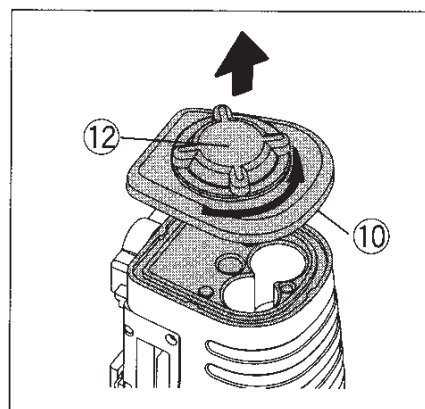

Figure 1
3. ※ If the battery cap does not open, check that the battery cap knob has been fully rotated, then pull the entire cap straight up (Figure 1).